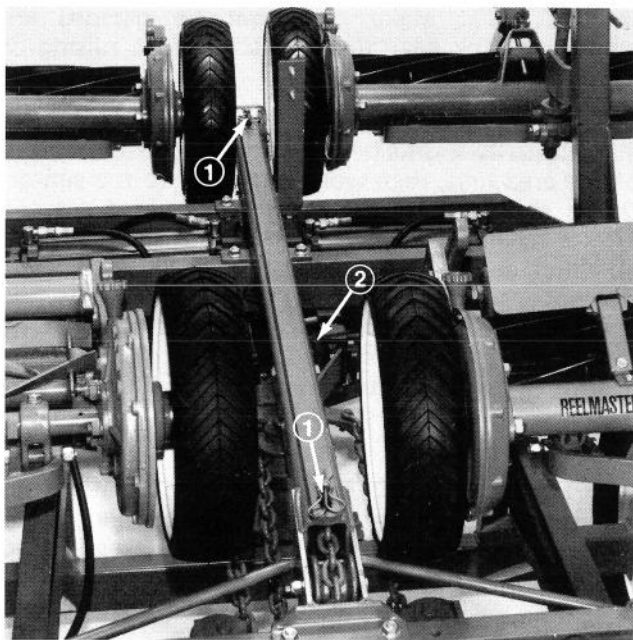
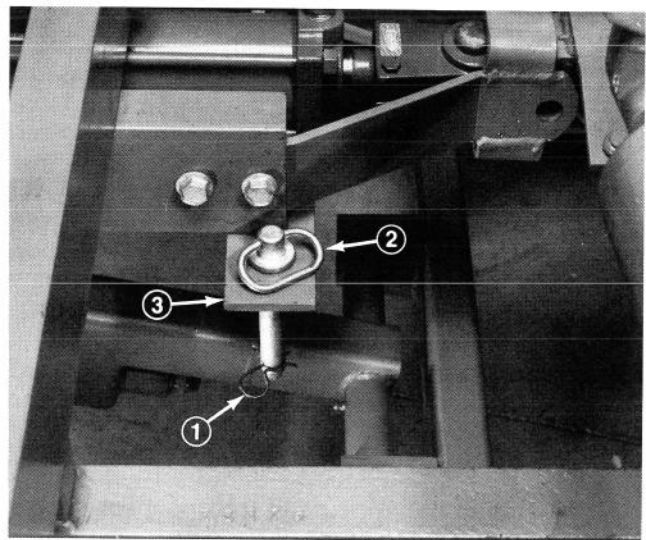

Figure 20
Figure 22
2. Remove (4) hairpin cotters securing transport straps to center frame channel and lift off straps (Fig. 20).
4. Remove hairpin cotter securing lockup pin to center cylinder rest (Fig. 22).
6. When mowing is to be resumed, remove transport straps from lift arms. Store on center frame channel and secure with (4) hairpin cotters (Fig. 20). Remove lockup pin secured to lockup bracket and secure to cylinder rest with hairpin cotter (Fig. 22).